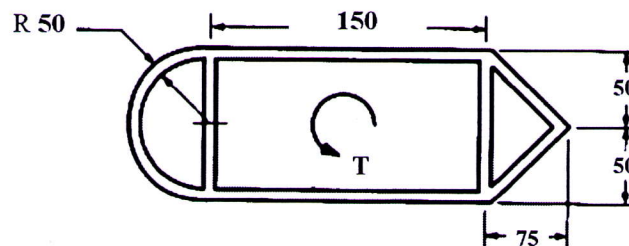

Fig. 5
- 12 Formulate the governing equation and boundary condition for torsion of a non-circular section using Saint Venant's method. Also write the assumptions made. (10)
- 13 a) Describe membrane analogy (4)
- b) How can the torsion of thin rectangular section be extended for the analysis of rolled sections under torsion? Explain. (6)
- 14 A multi-cell aluminum structure made of thin sections as shown in Fig. 5. The uniform wall thickness is 3 mm. If a pure torque (T) of 12 N-m is applied to the section, determine the shear stresses in the thin webs and angle of twist per unit length. ($G = 28 \text{ GPa}$). (10)